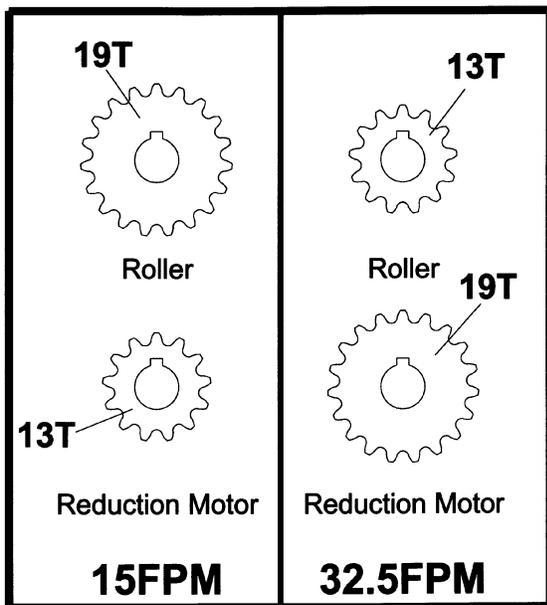

Figure 6
4. Remove the sprockets and chain together and position according to the required operation. See Figure 6.